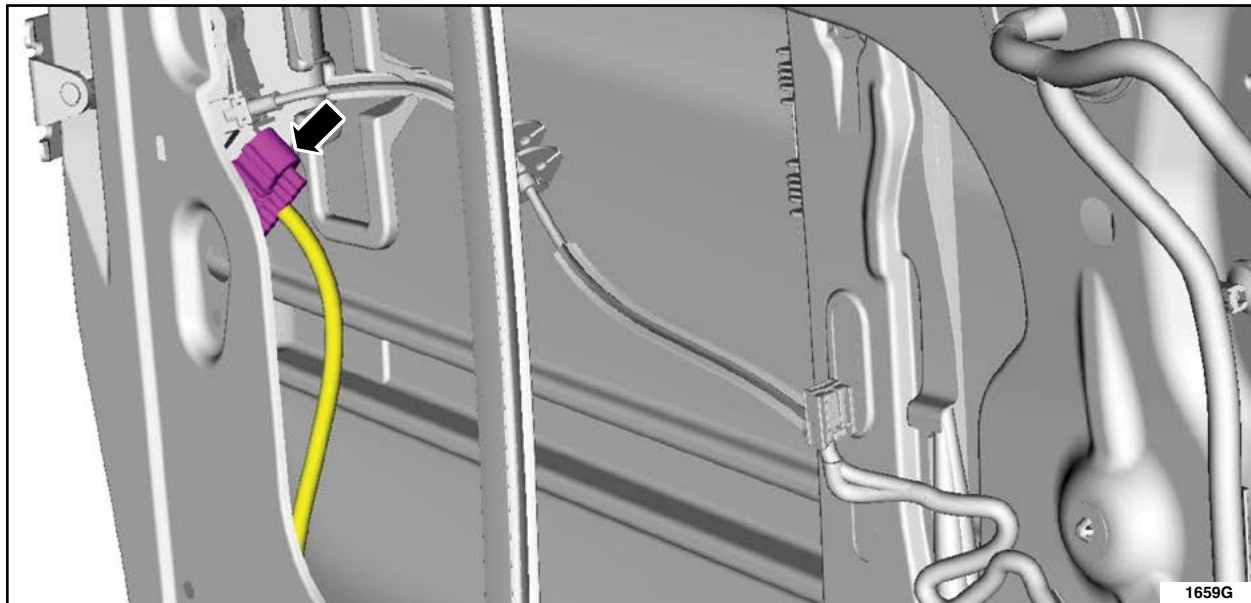

FIGURE 13
6. Disconnect the electrical connector from the sliding door latch. See Figure 13.